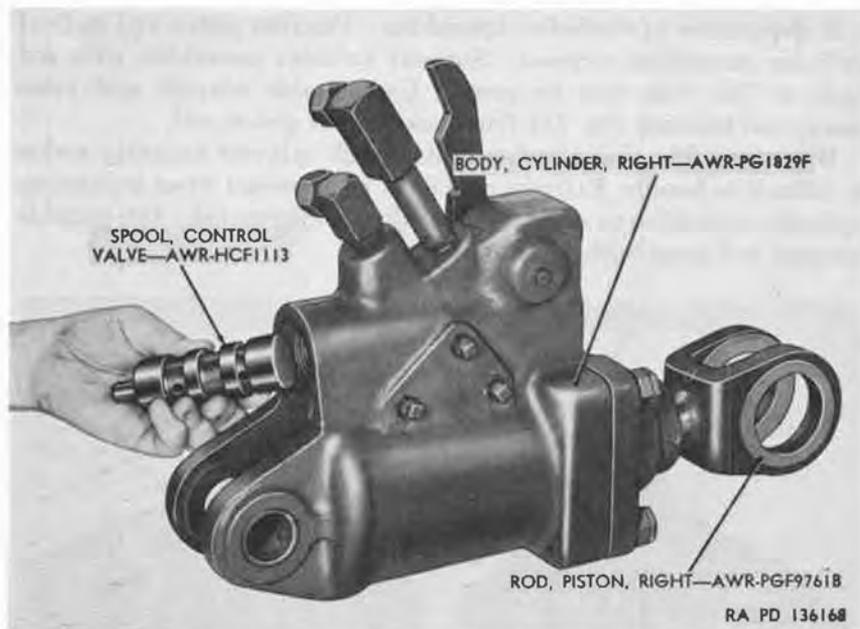

Figure 16. Removing control valve spool.
- (1) Remove control valve spool end plug (S), gasket (R), and control valve spool spring (Q) from right cylinder body (M). Remove control valve spool (fig. 16) from valve chamber in right cylinder body.